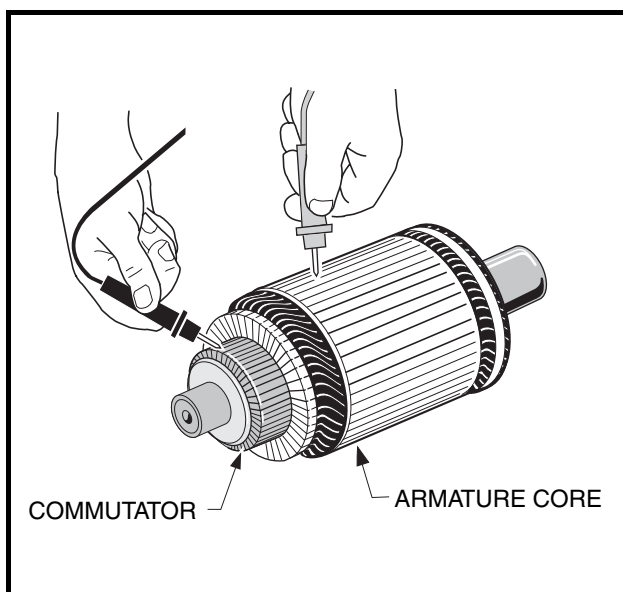

Figure 22b-12 Armature Test
1. With a multimeter set to 200 ohms, place one probe on the commutator and the other on the armature core. The multimeter should indicate no continuity (**Figure 22b-12, Page 22b-7**). If the reading is incorrect, replace the armature.
3. Inspect the brush springs (14) (**Figure 22b-15, Page 22b-10**). Replace springs that are discolored from heat (light gold or blue tinted).